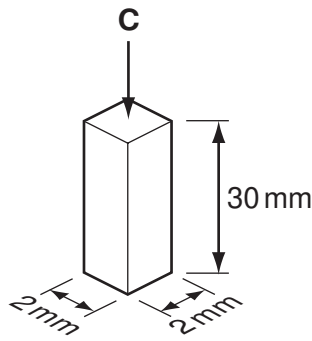

Fig. 14
- (f) Fig. 14 shows a test sample used in an experiment to test a material's ability to withstand stress loading.